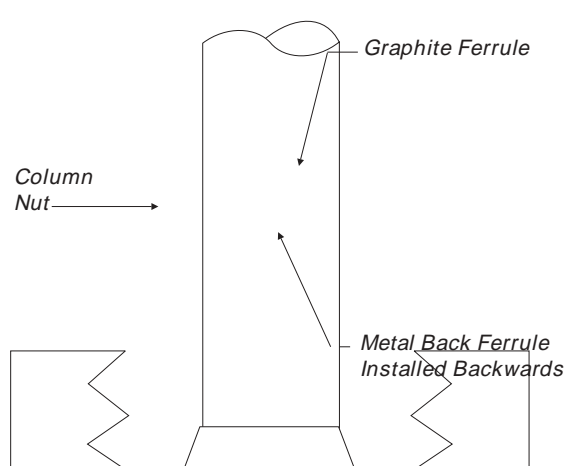

Figure 6
1. Place the nuts and ferrules on the detector and injector ends as shown in Figure 6.